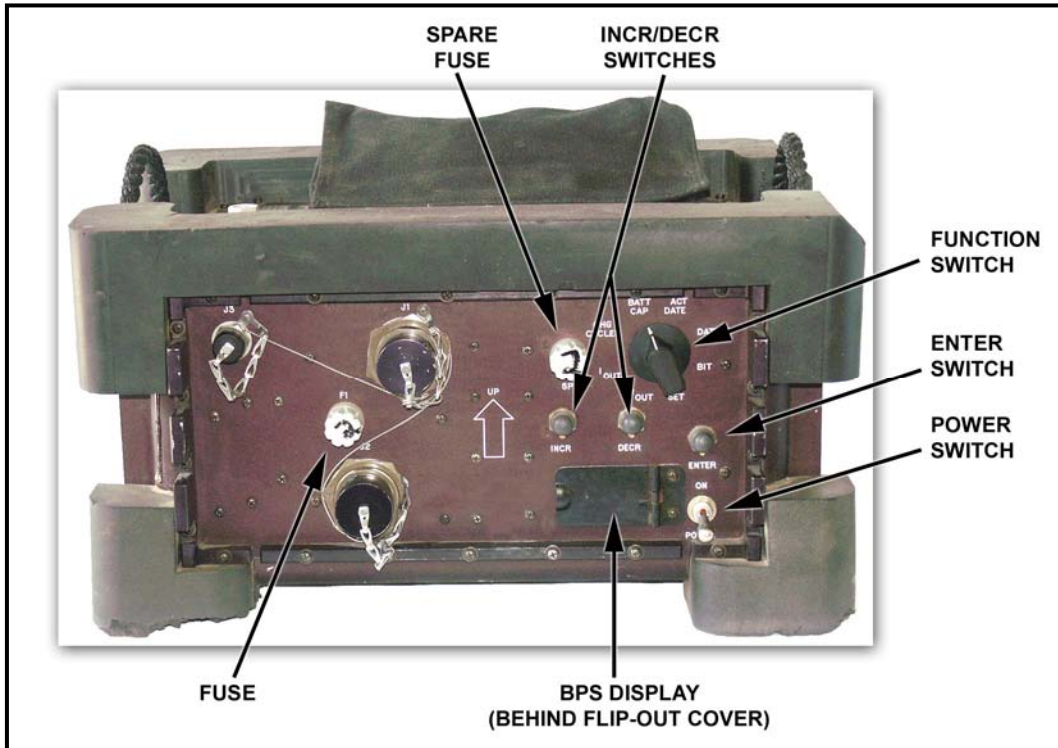

Figure 2-57. BPS controls and indicators.
c. **INCR and DECR Switches.** The increase (INCR) and decrease (DECR) push-button switches are located just below and to the left of the function switch (Figure 2-57). The two switches provide the capability to change three functions on the BPS:
d. **ENTER Switch.** The ENTER switch is a push button located on the right side of the BPS front panel (Figure 2-57). When the function switch is placed in the BIT position, pushing ENTER will initiate the BPS BIT. Results of this test are shown on the BPS display indicator as fault codes for maintenance personnel.
e. **POWER Switch.** The power switch, located in the lower right corner of the BPS, turns on the BPS (Figure 2-57). It is the first switch turned on in the ITAS power-up procedures.
f. **Fuse.** The fuse protects the BPS from damage caused by a short in the cables or ITAS components (Figure 2-57).
g. **Spare Fuse.** The spare fuse can be exchanged with a faulty fuse to restore operation (Figure 2-57).